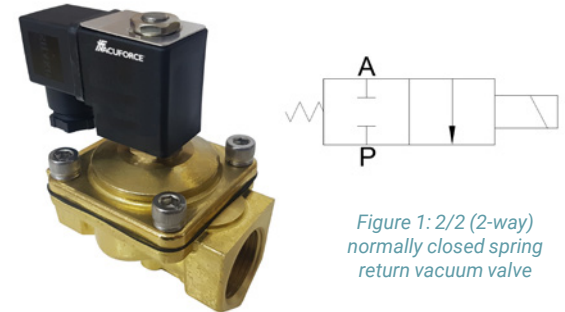

Figure 1: 2/2 (2-way) normally closed spring return vacuum valve
2/2 valves have two ports and two positions. The 2/2 model can be thought of simply as a “stop and go” valve. In one position, the valve is closed and vacuum is OFF, and in the other position, the valve is open and vacuum is ON. If the rest position of the valve is closed, the valve is referred to as normally closed (NC), whereas normally opened (NO) is the opposite. A normally closed unit requires the valve to be energized to open and turn the vacuum on. The choice of NC or NO is usually decided based on safety requirements of the system. During a power loss, the valve rest position is key to determine how the system will react. Figure 1 shows a typical 2/2 valve and its symbol. An example of a 2/2 valve application would